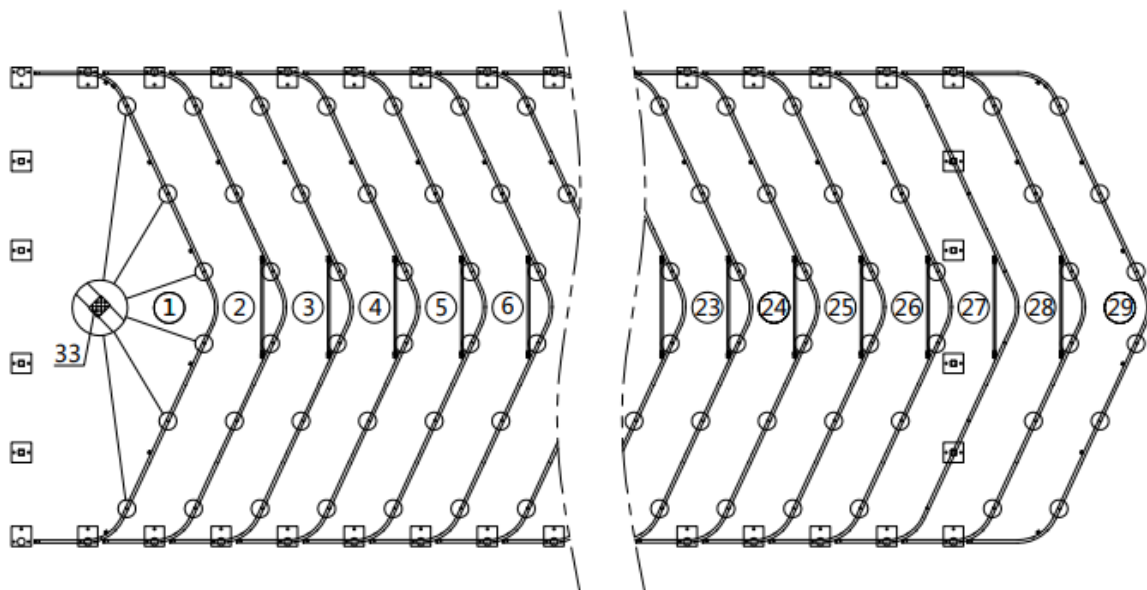

Figure 4
- Lay down all (29) trusses on the ground when the assembly is all completed and before moving to next step, and then wrap (#33) around the sharp points of the joint to avoid friction between the fabric and the interface, resulting in fabric damage. (refer to figure 4)
- (7) Adhesive tape (#33)